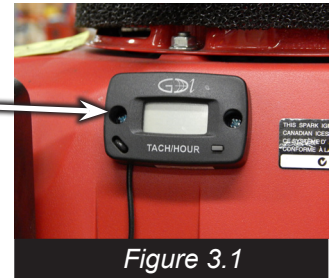

Figure 3.1
- Increase speed to operating position (**MAXIMUM 3400RPM's**) & begin grinding. Refer to tachometer (*Figure 3.1*) for operating speed.